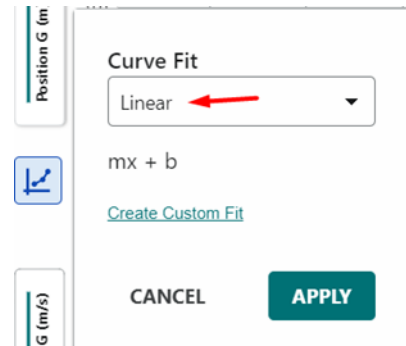

Figure 6
3. The graph of velocity vs. time is linear if the acceleration is constant. To fit a line to this data, click and drag the mouse across the free-rolling region of the motion. Click *Linear Fit*,  (Figure 6). Compare the slope of the line with the acceleration you found in the previous step.